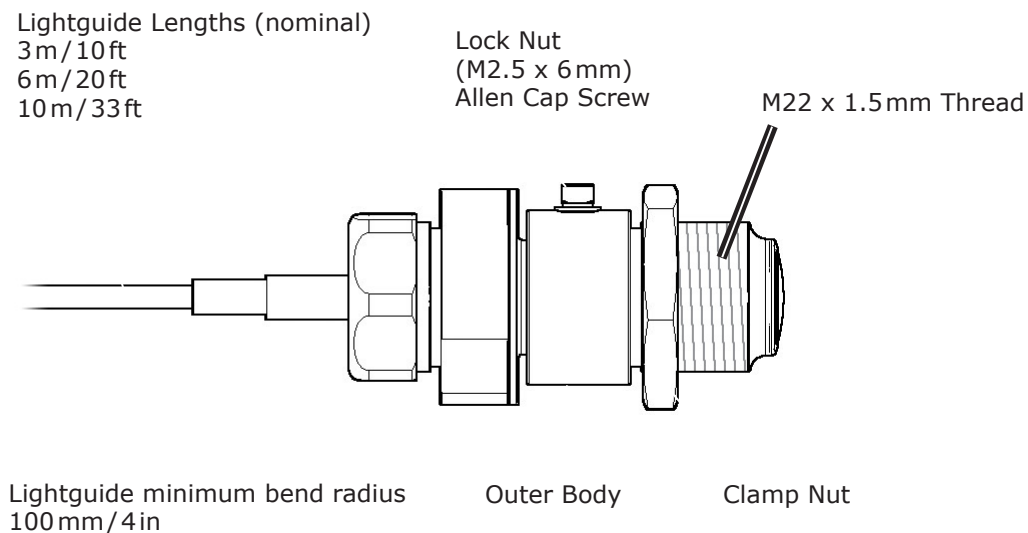

Fig. 2-3 SPOT+ Fibre-optic thermometer optic head installation dimensions
- 2) Refer to Fig. 2-3. Unscrew the clamp nut on the optic head.
- 1) To adjust the focus, loosen the M2.5 lock nut on the optic head outer body (See Fig. 2-3).